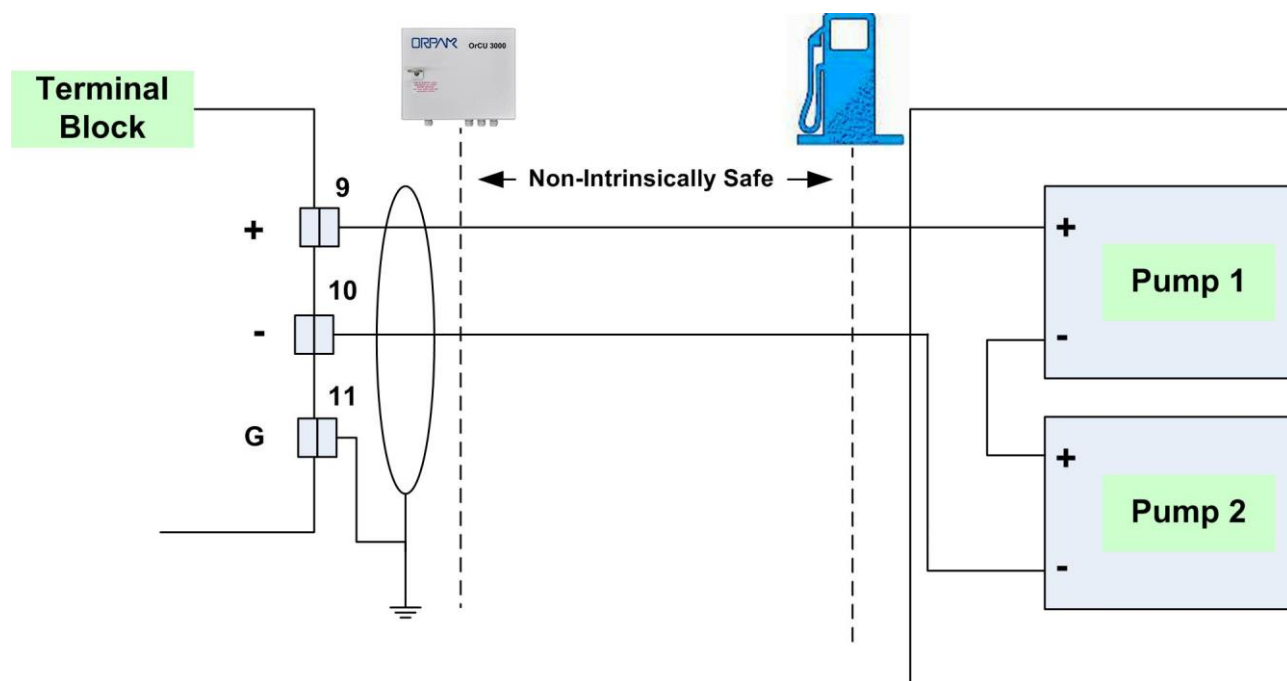

Figure 3-20 Current Loop Electronic Pump - Wiring Diagram
- Figure 3-20 shows the specific wiring connections between CFN PLUS and the Current Loop pump nozzle, and the terminals that differ from the Mechanical Pump. The figure shows the serial connection between two Current Loop pumps and the Terminal Block.